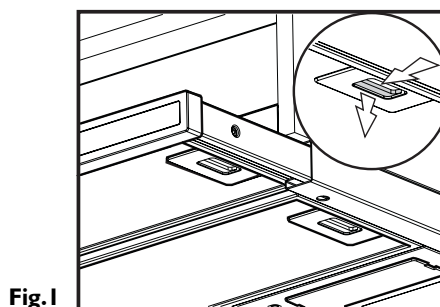

Fig.1
1. Fix the brackets **D** (**Fig. 1**) to the side panel of the wall unit using 2 long screws for each bracket (the right bracket **R** on the right side, the left bracket **L** on the left side), aligning them with the bottom edge.
2. Remove the dirty grease filter/s by pulling the handle first backwards and then downwards (**Fig. 1**).
2. Remove the grease filter/s (**Fig. 1**).
5. Refit the grease filter/s (**Fig. 1**).